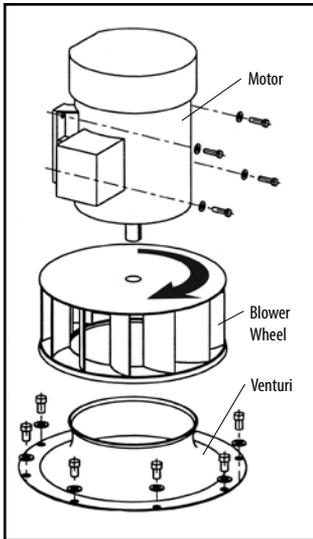

FIGURE 15
1. **Check Blower Rotation:** Check blower rotation of the unit by jogging the motor. Proper blower rotation can be observed by either removing the blower access panel or by looking down through the vents in the top of the motor. Blower rotation should be **CLOCKWISE** when viewed from above the motor. The blower will still draw air if run backward but it will only be a fraction of what it should be (see Figure 15).